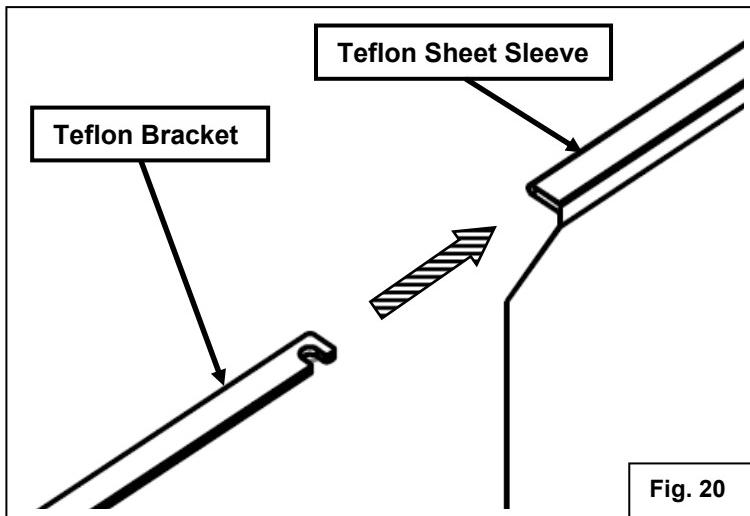

Fig. 20
2. Slide the Teflon bracket (#944503) into the sleeve of the Teflon sheet as shown in fig. 20.